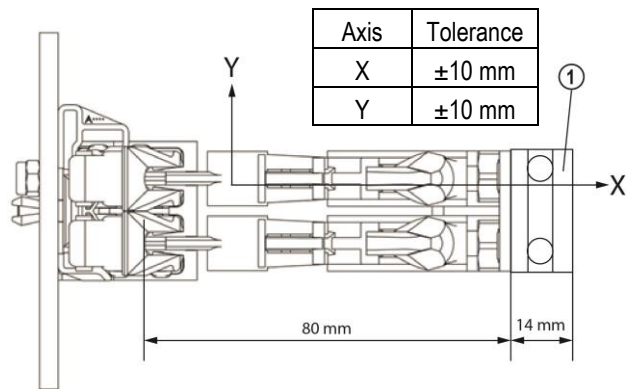

Fig. 45: Aligning the current collectors (viewed from the front)
- Aligning the current collectors, see Fig. 45